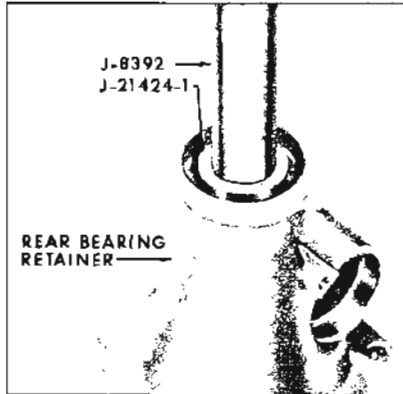

Figure 5-334
1. Using Drive Handle J-8392 and Installer J-21424-1 install rear bearing reatainer bushing. See Figure 5-334.